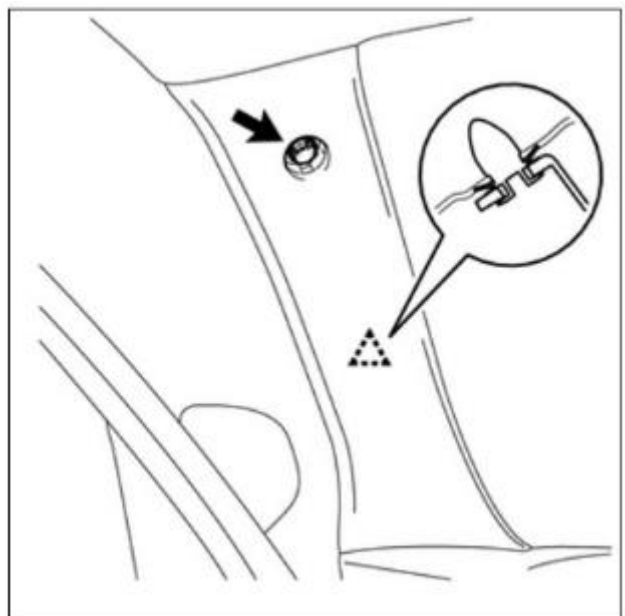

Figure 12b
- (b) Remove the bolt (Figure 12b).